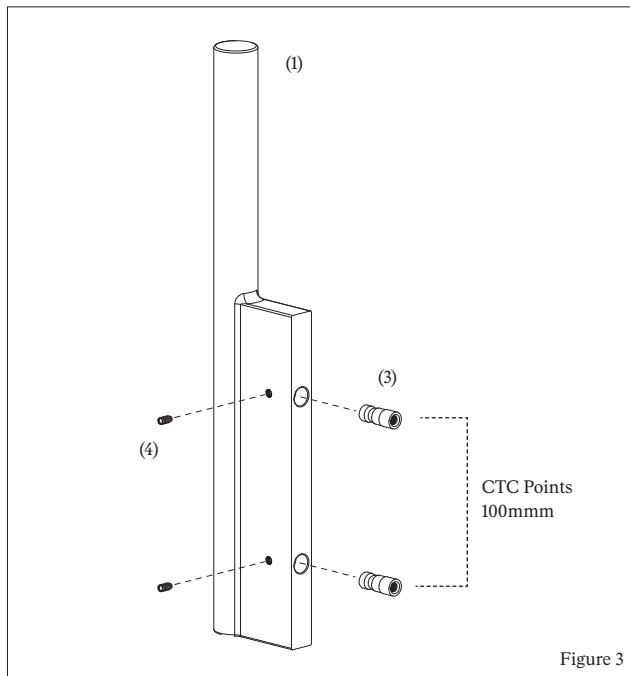

Figure 3
- 2.1 Remove the pencil spindles from the pull handle by loosening the grub screws. (Figure 3)